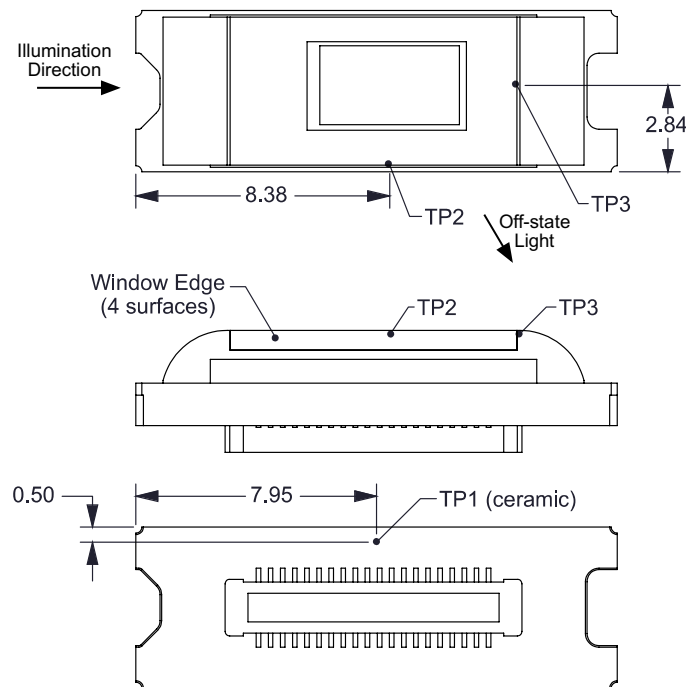

Figure 7-1. DMD Thermal Test Points
- T_{CERAMIC} = Measured ceramic temperature (°C), TP1 location in Figure 7-1
- Q_{ARRAY} = Total DMD power; electrical, specified in Electrical Characteristics, plus absorbed (calculated) (W)
- $Q_{\text{ELECTRICAL}}$ = Nominal DMD electrical power dissipation (W), specified in Electrical Characteristics